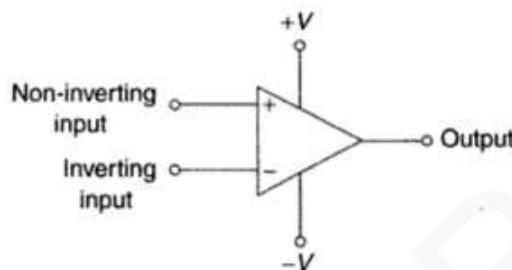

Figure 16.1: Circuit symbol for an op-amp
- single-ended output (Figure 16.1).